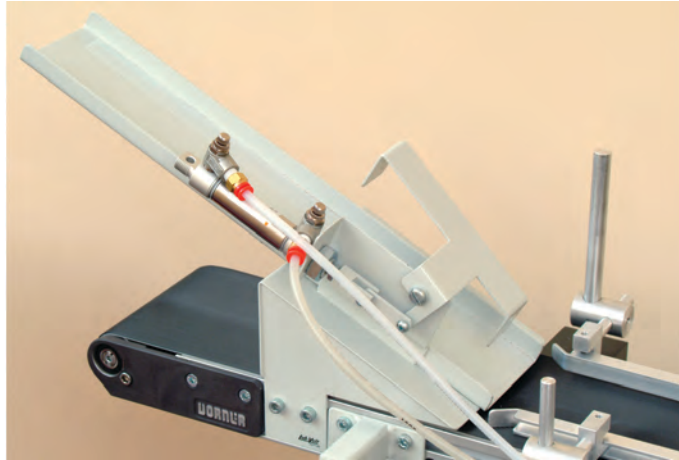
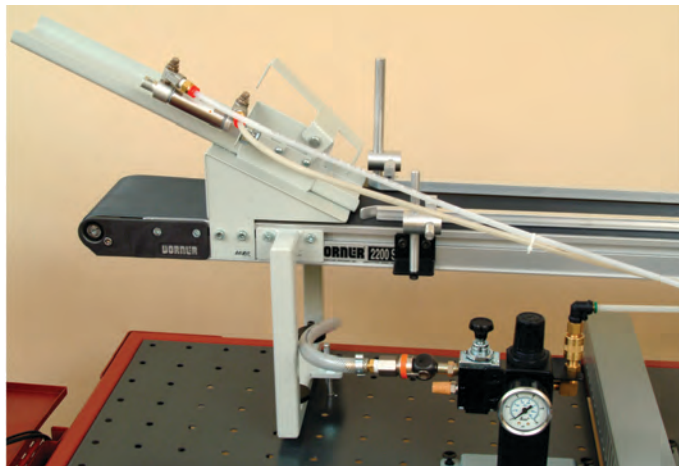
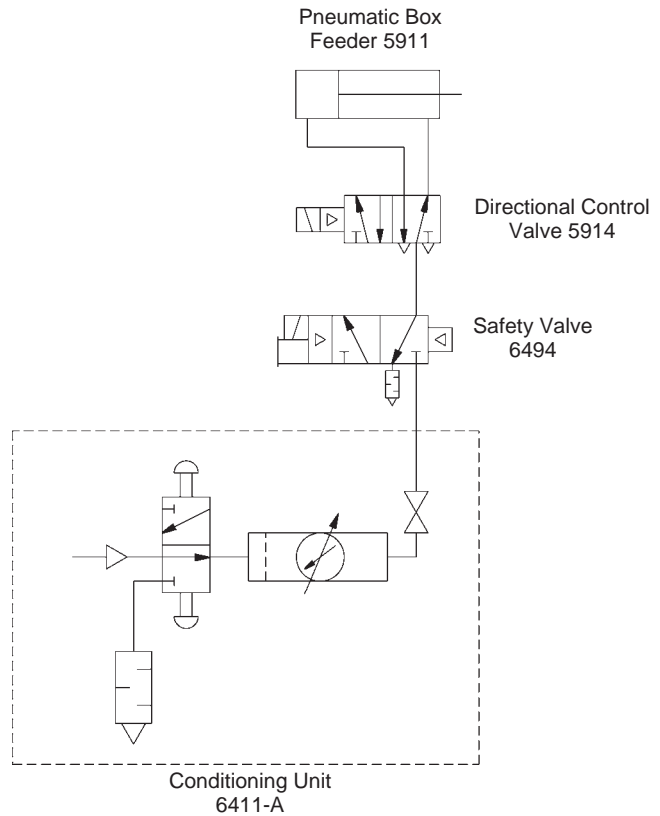

Figure 4-19. The Pneumatic Box Feeder installed on the Flat Belt Conveyor.
Figure 4-20. Side view of the Pneumatic Box Feeder and Conditioning Unit.
Figure 4-21. Pneumatic connections diagram.
7. Install the Pneumatic Box, the Directional Control Valve Station, the Safety Valve, and the Conditioning Unit (Figure 4-19 and Figure 4-20). Refer to the diagram presented in Figure 4-21 to make the pneumatic connections.
- ☐ Pneumatic connections conform to the diagram presented in Figure 4-20 of the student manual.
- ☐ The setup is wired according to the diagram presented in Figure 4-21 of the student manual.